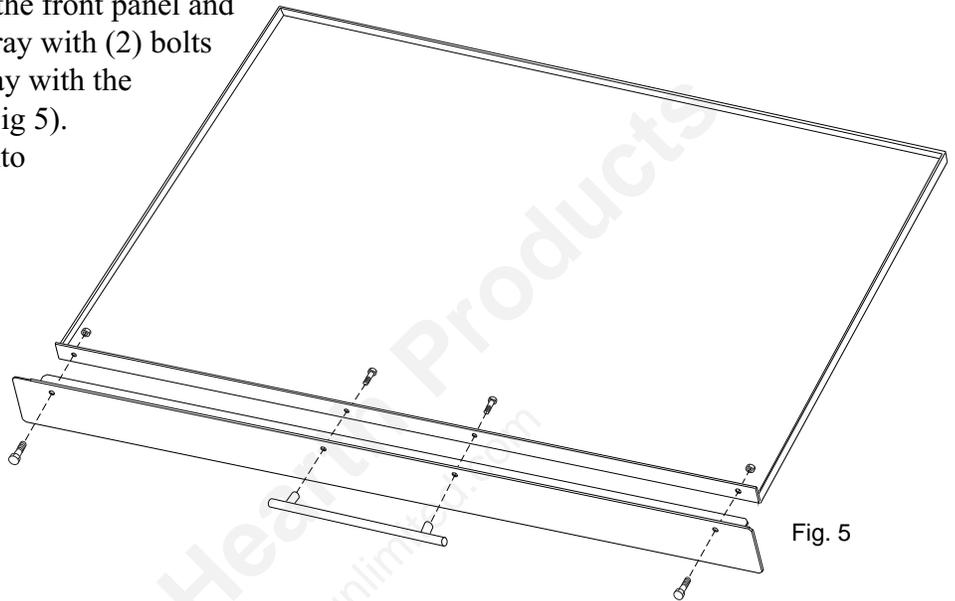

Fig. 5
Remove the protective plastic from the front panel and attach to the front lip of the grease tray with (2) bolts and nuts. Attach the handle to the tray with the (2) bolts supplied with the handle (Fig 5).